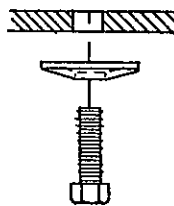

Fig. 4 Blade Bolt Installation
- g. Torque blade bolts to 40 FT-LBS. Be sure the spring disk washer cone is installed toward the bolt head. (See Figure 4.)